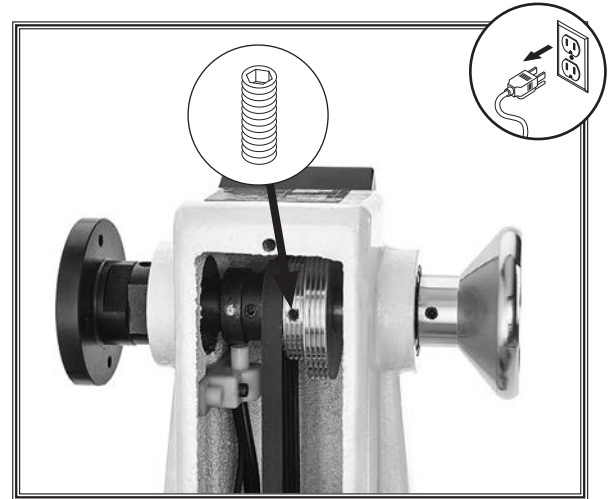

Figure 41. Spindle pulley set screw location.
3. Loosen set screw on spindle pulley (see **Figure 41**).